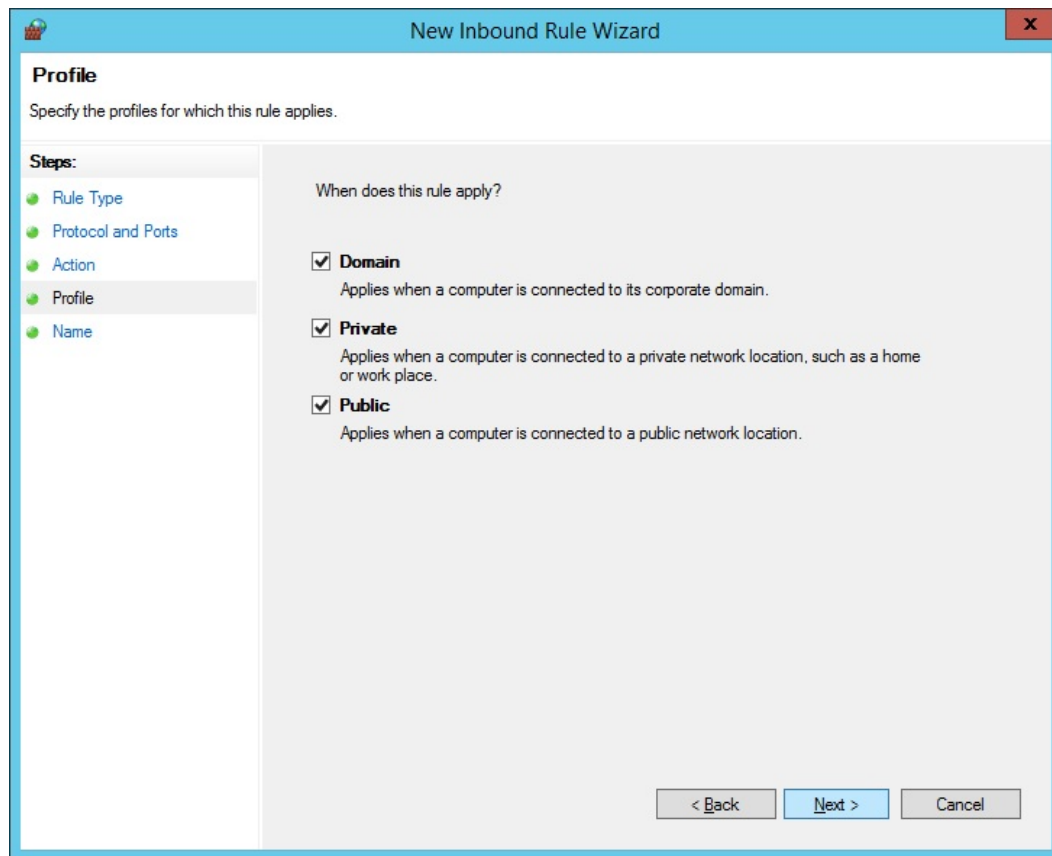

Figure 2-84. Choosing Where the Exception Applies
12. On the Profile page of the New Inbound Rule wizard, specify the cases where the BSIPDRV port inbound rule applies. This is the same as Figure 2-84.